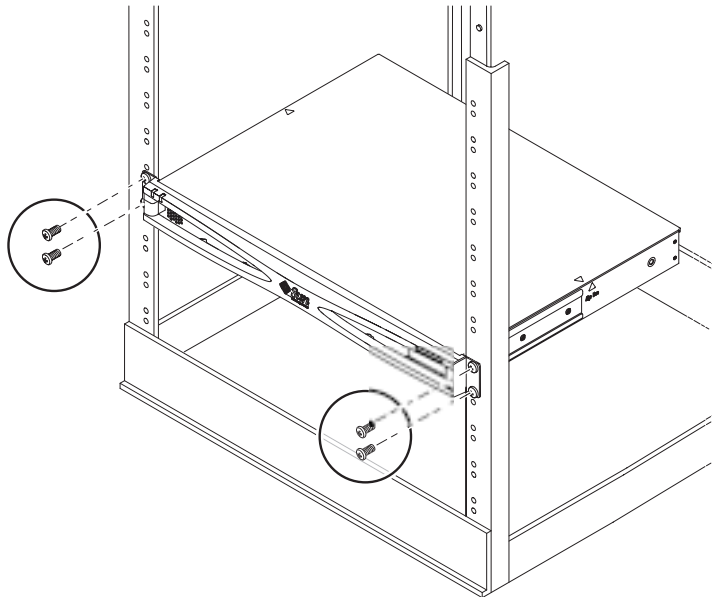

FIGURE 3-1 Mounting the Server in a Standard 19-inch Rack
1. **Position the Netra X1 server in the rack and tighten the screws (see FIGURE 3-1).**